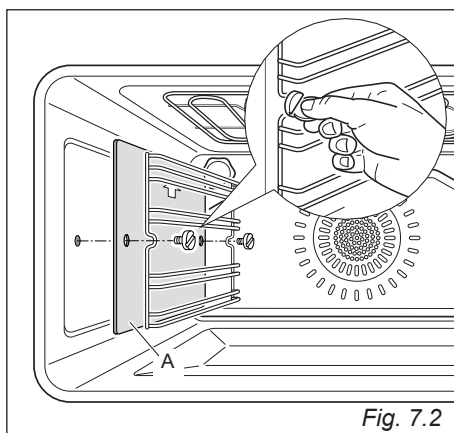

Fig. 7.2
- Assemble the wire racks to the oven walls using the 2 screws (fig. 7.2).
**In the models with catalytic panels supplied:** interpose the catalytic panels "A" with the arrow up (fig. 7.2).
- Fit the side runner frames into the holes on the side walls inside the oven. (fig. 7.2).